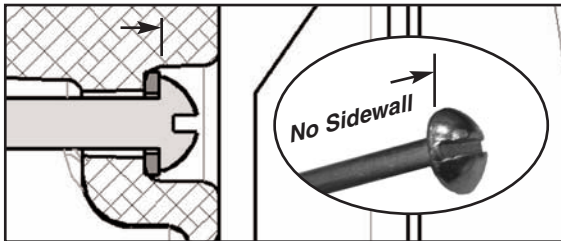
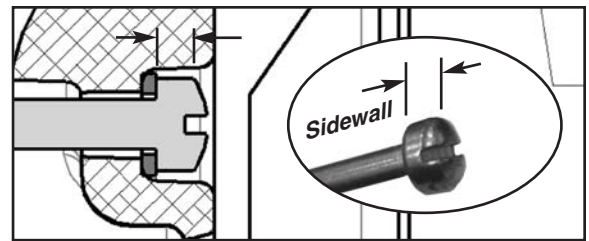

Figure 2 - Pan-Head Through Bolt (If found alternator must be repaired)
Figure 3 - Fillister-Head Through Bolt (If four found, alternator is acceptable)
- (2) To eliminate the risk of through bolt head separation, all pan-head through bolts must be replaced with HET P/N ALA-0020G fillister-head style through bolts on the affected alternators. Refer to Figure 2 and Figure 3.
- (3) The pan-head version of the HET P/N ALA-0020G through bolt is being discontinued and will no longer be used.
- (4) Regulatory action is unknown.
- a. If a pan-head through bolt is installed, return the affected alternator to HET for repair per 3.C Corrective Action. Refer to Figure 2.
- b. If positive identification that four fillister-head through bolts are installed, the affected alternator is in compliance with this service bulletin. Proceed to 3.D(3), Return to Service. Refer to Figure 3.